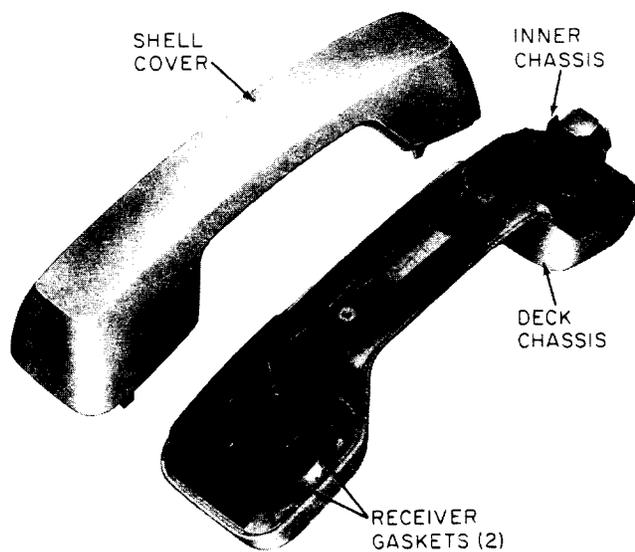

Fig. 12—K2D Modular Handset Showing Location of Receiver Gaskets
- Has additional receiver gaskets to reduce background noise leakage through handset (Fig. 12).